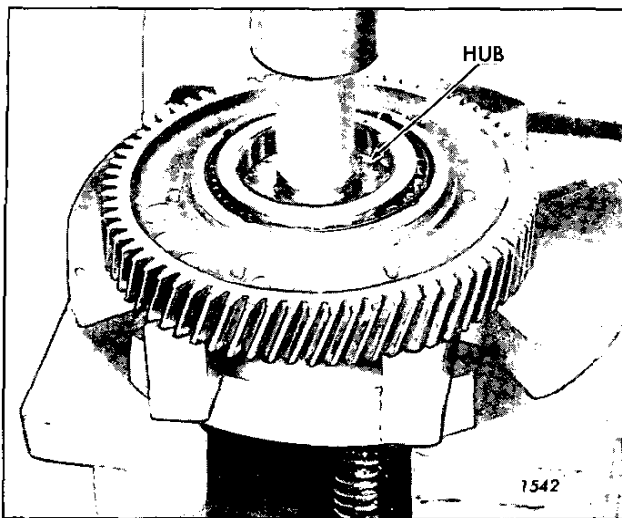

Fig. 5 - Pressing Hub Out of Bearing
3. Place the idler gear and bearing assembly in an arbor press with the bearing cone or inner race supported on steel blocks (Fig. 5). While rotating the gear assembly, press the hub out of the bearing. Remove the gear assembly from the arbor press and remove the bearing cones and spacer.